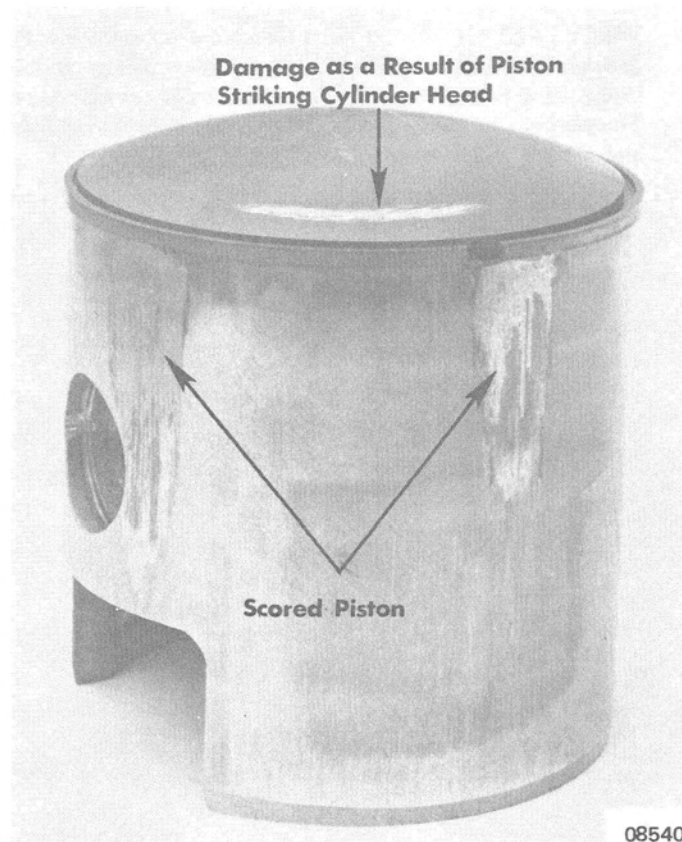

Figure 13. Damaged Piston
3. Inspect piston domes for damage as a result of pistons striking cylinder heads. (Figure 13)